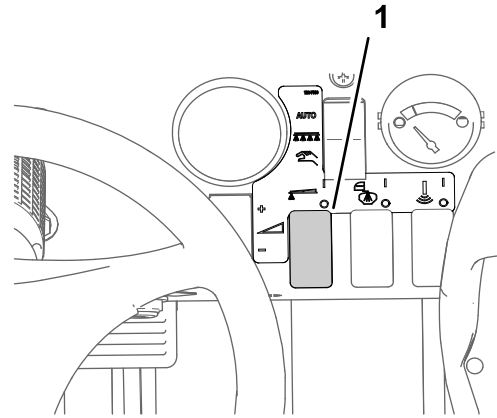

Figure 35
8. Use the application-rate switch to achieve the desired spray pressure as indicated in the nozzle-selection guide provided with the sprayer (Figure 35).